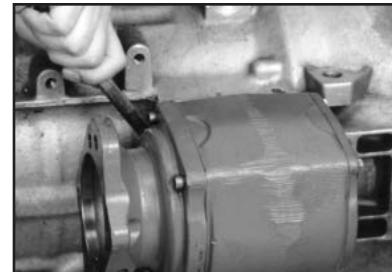

Figure 8
- Use self-locking nuts provided with PTO (Fig. 8).